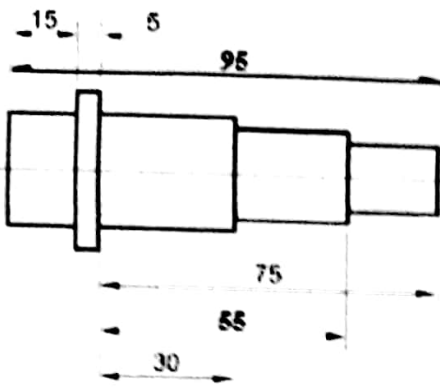

Fig 1
- II. Redraw given figure 1 and dimension as per BIS.